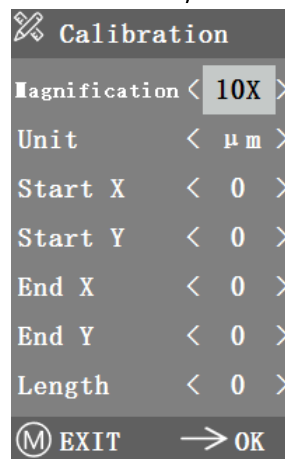

Figure 5-7
2. After entering the Calibration menu, it is shown in Figure 5-7.